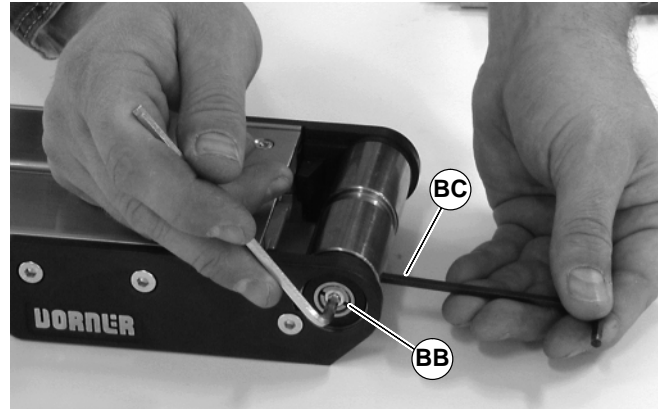

Figure 46
3. On both sides of pulley, use a 4mm hex-key wrench to tighten pulley taper screw (BB of Figure 46) to 35 in-lb (4 Nm). Steady pulley with second hex-key wrench (BC) inserted into pulley hole.